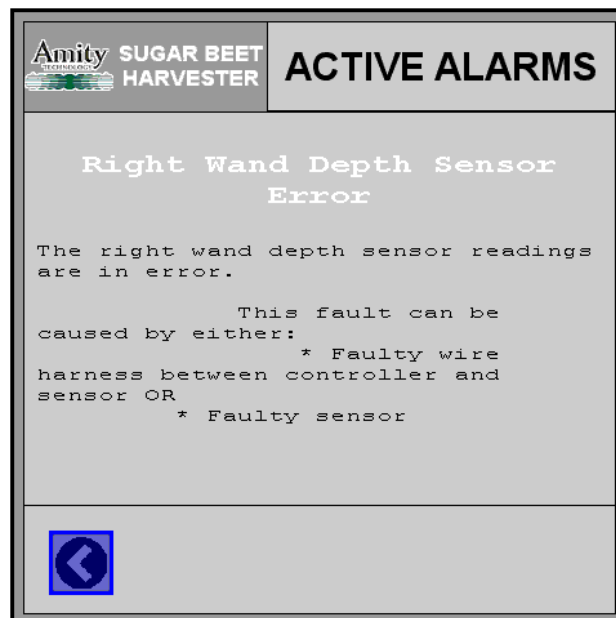

Figure 128—Alarm Information Pop Up
- **C—Information Icon:** By selection the Information Icon more information on the highlighted alarm is displayed. This pop up give a brief description of the alarm and possible causes. Figure 128 is an example of this pop up. To return to the list select the arrow in the bottom left corner.